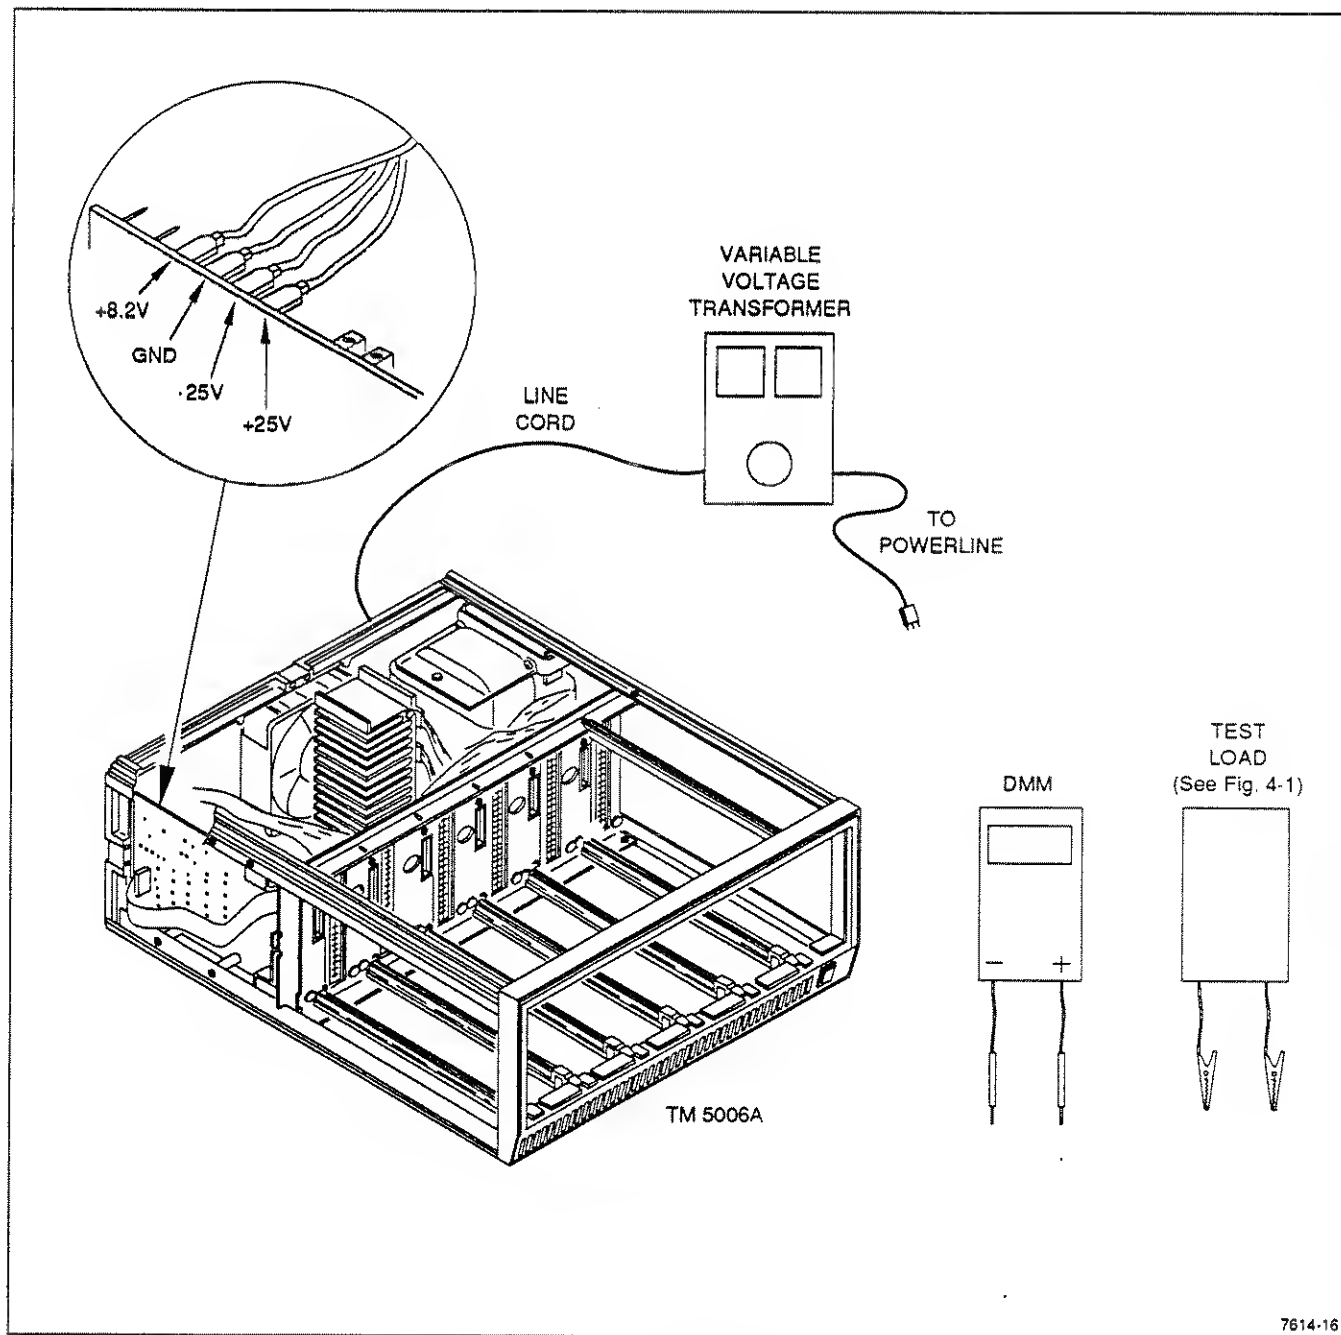

Fig. 4-2. Performance check setup.
Remove the top cover to gain access to the supply buses. Figure 4-2 shows the test point locations.
- Connect the test equipment as shown in Figure 4-2. Set the Variable Voltage Transformer line voltage for 10% below the nominal line voltage. (Nominal line voltage is the line voltage the instrument is set to operate on.)
- Connect a 4 Ω test load and the DMM between the +25 V supply and ground terminals shown in Figure 4-2.
- Connect the test equipment as shown in Figure 4-2. Set the Variable Voltage Transformer line voltage for 10% below the nominal line voltage.
- Connect a 4 Ω test load and the DMM between the -25 V supply and ground terminals shown in Figure 4-2.
- Connect a 0.46 Ω test load and the DMM between the +8.2 V supply and ground terminals shown in Figure 4-2.
- b. Connect a $0.46\ \Omega$ test load and the DMM between the +8.2 V supply and ground terminals shown in Figure 4-2.